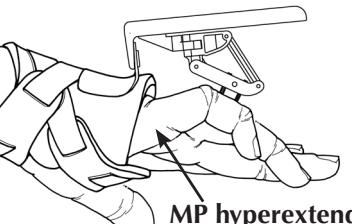

Fig. 11
Some patients with PIP flexion contractures may also hyperextend at the knuckle (MP) joint. When the MP joint bends backward (Fig. 11), some of the extension force at the PIP joint is lost. To control MP hyperextension, an MP Flexion Strap is included. Use this strap only on the direction of your surgeon or hand therapist.